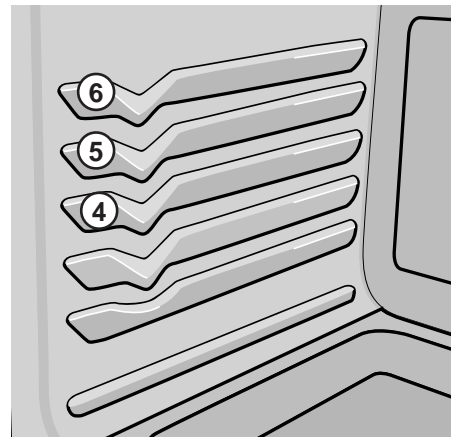

Fig. 2
2. Arrange the interior oven rack - p. 23 Figs. 2 &amp; 3- for position recommendations. Be sure to place the prepared food and pan directly under broil burner. Close the oven door.